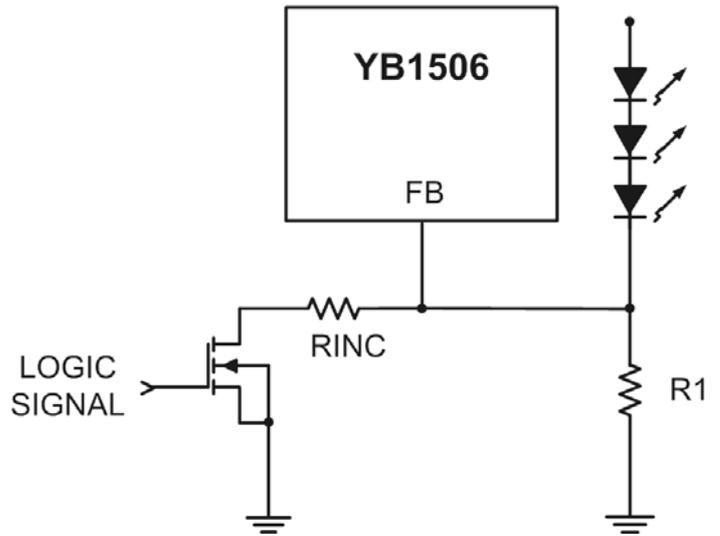

Figure 6 : Dimming Control using a LOGIC SIGNAL
For applications that need to adjust the LED current in discrete steps, a logic signal can be used as shown in Figure 6. R1 sets the minimum LED current (when the NMOS is off). R_{INC} sets how much the LED current increases when the NMOS is turned on. The selection of R1 and R_{INC} follows formula (1) and Table 4.